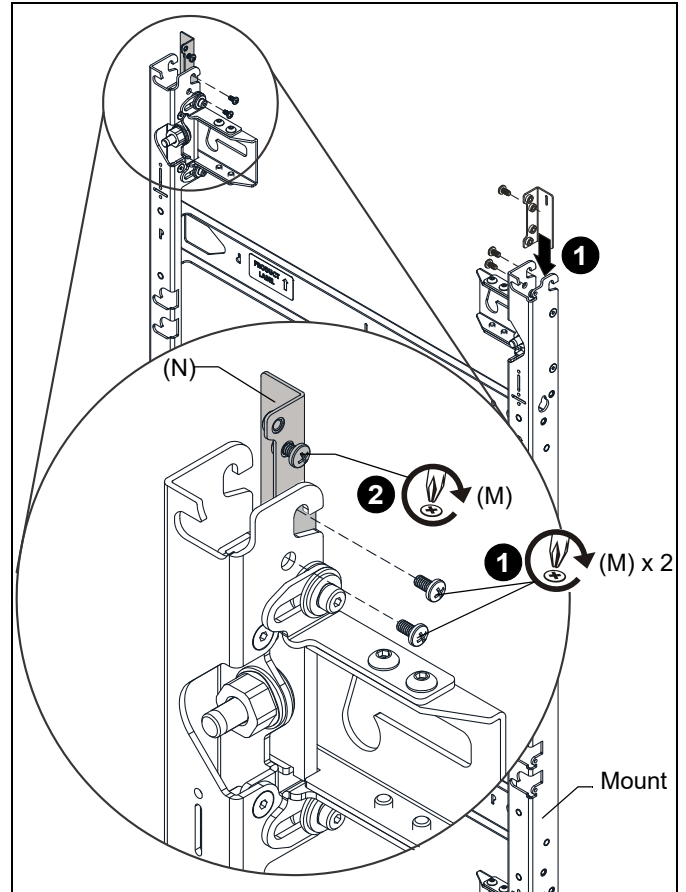

Figure 3
1. Slide the vertical connector (N) down from the top of the mount, and attach with two 1/4-20 x 1/2" Phillips pan head screws (M) per vertical connector. (See Figure 3)
2. Loosely install one 1/4-20 x 1/2" Phillips pan head screw (M) in the top screw hole at the top of each vertical connector (N). (See Figure 3)